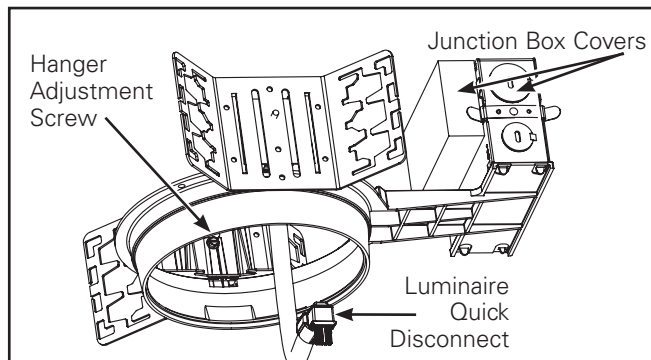
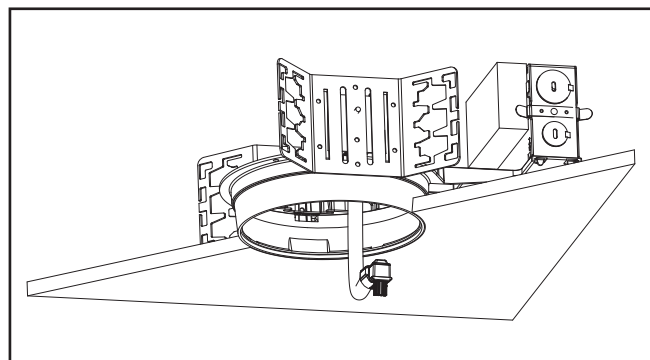

Figure 1
Figure 2
1. Hanger Adjustment Screw: Adjust hanger adjustment screws (Figure 1.) so bottom of plaster ring is flush with finished ceiling line. (Figure 2.) Hanger bracket is reversible for total adjustment of 5".
1. Place end of flexible conduit through frame opening in ceiling exposing upper portion of quick disconnect (Figure 2.).